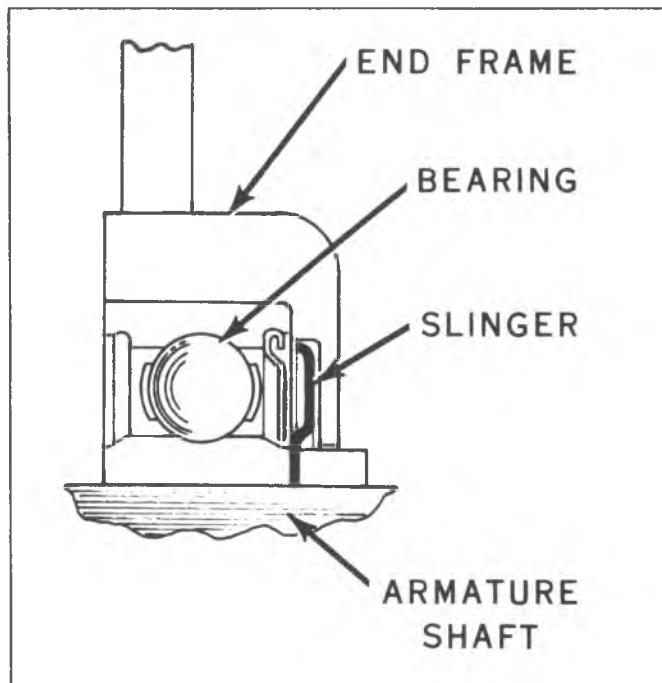

Fig. 8C-Drive End Bearing Cross Section
3. Press bearing into end frame using tube or pipe as in Step 1 with bearing and slinger assembled as shown in Figure 8C.